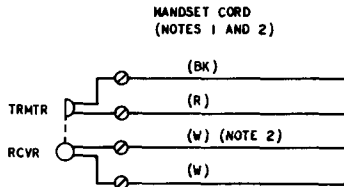

Fig. 11D—Handset Cord Replacement
(3) Retrieve the two white (receiver leads) lead loops and pull free (Fig. 11D). Hold the free end of these leads and retract the cord to
obtain the red and black leads at the transmitter end of the handle (Fig. 11D).